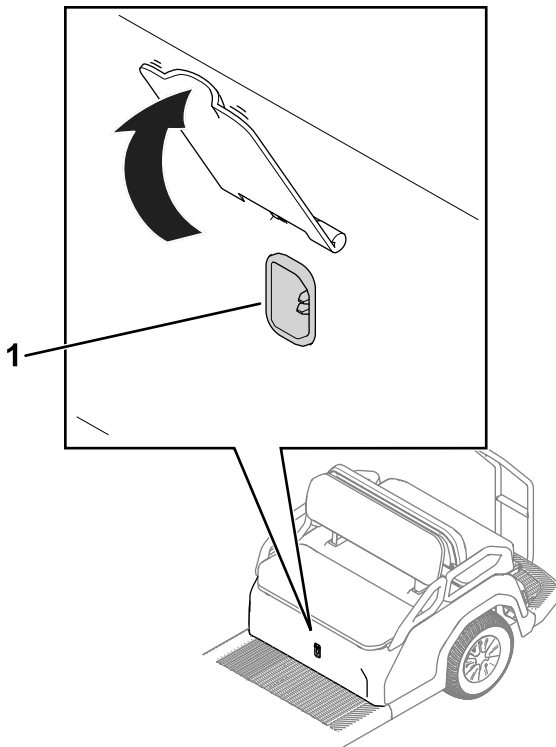

Figure 21
1. Plug the power-supply cord into the machine charger outlet (Figure 21).